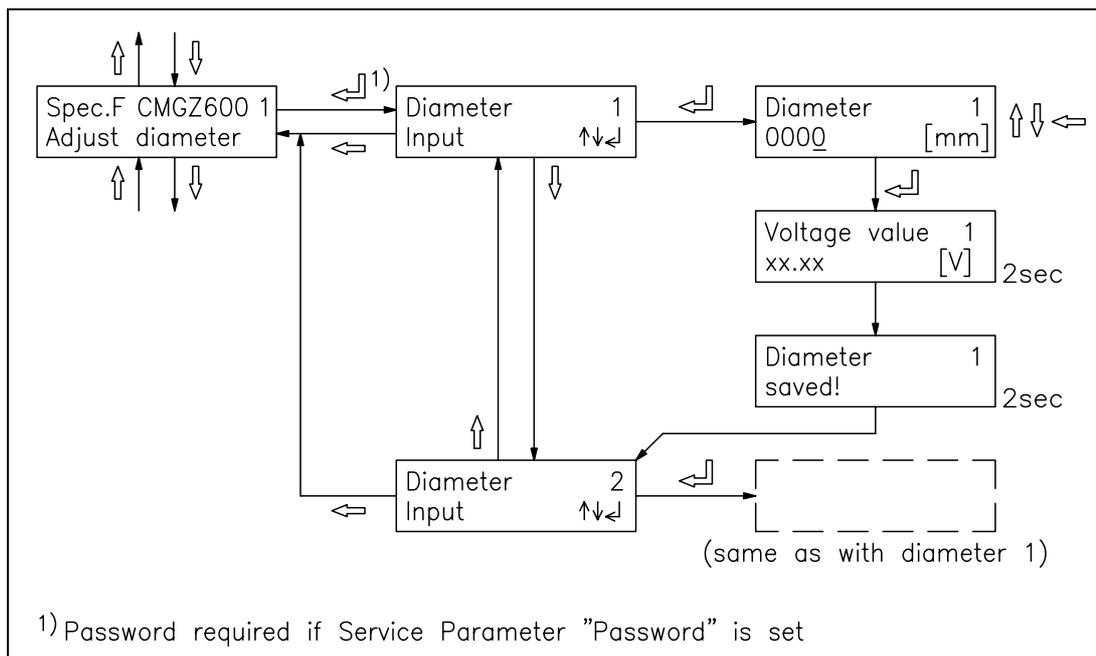

fig. 16: Program flow for special function „Adjust diameter“
- When in the main operating menu, press MODE key. Search and select the module *Spec.F CMGZ622 1* and the special function *Adjust diameter* with the $\uparrow \downarrow \leftarrow$ keys (fig. 12). Input the actual (small) reel diameter as *Diameter 1* (fig. 16). After confirmation with \leftarrow key the diameter is saved together with the referring voltage signal.
- Input the actual (large) reel diameter as *Diameter 2* as written above (fig. 16). After confirmation with ↵ key the diameter is saved together with the referring voltage signal.